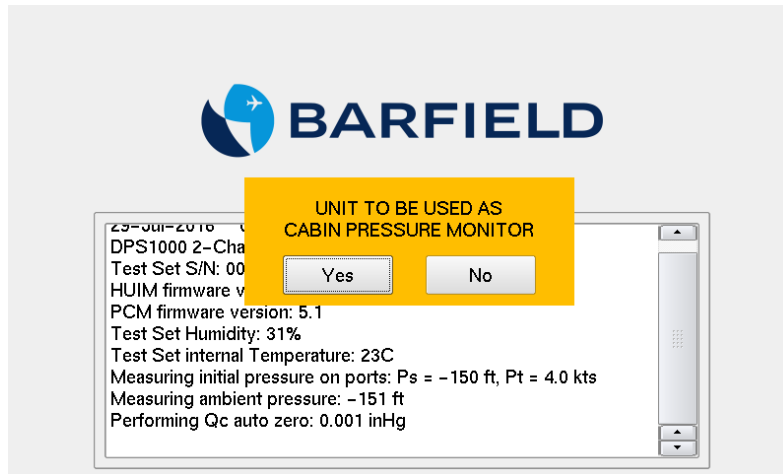

Figure G. 6 Initialization Screen
2. Then, the unit will prompt you to answer “yes” or “no” to the message below (Fig. G. 6).